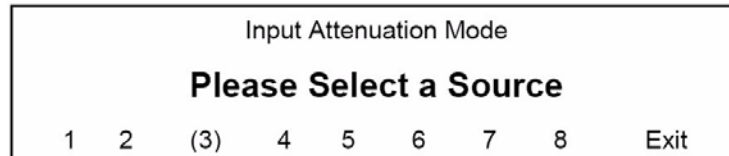

FIG. 31 Input Attenuation Mode screen
2. Select **Input Attenuation**. This invokes the *Input Attenuation Mode* screen (FIG. 31):